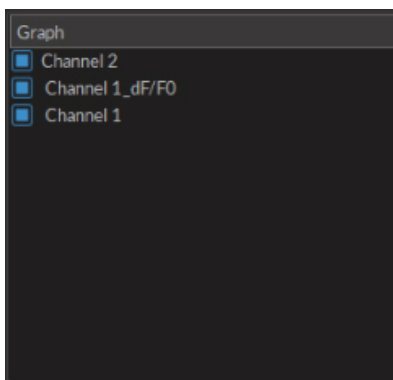

Figure 3.32: Show/Hide Graph(s) Window
- The **Toggle graphs** button opens the **Show/Hide Graph(s)** window (Fig. 3.32). The list in the window is used to toggle current graphs on or off.